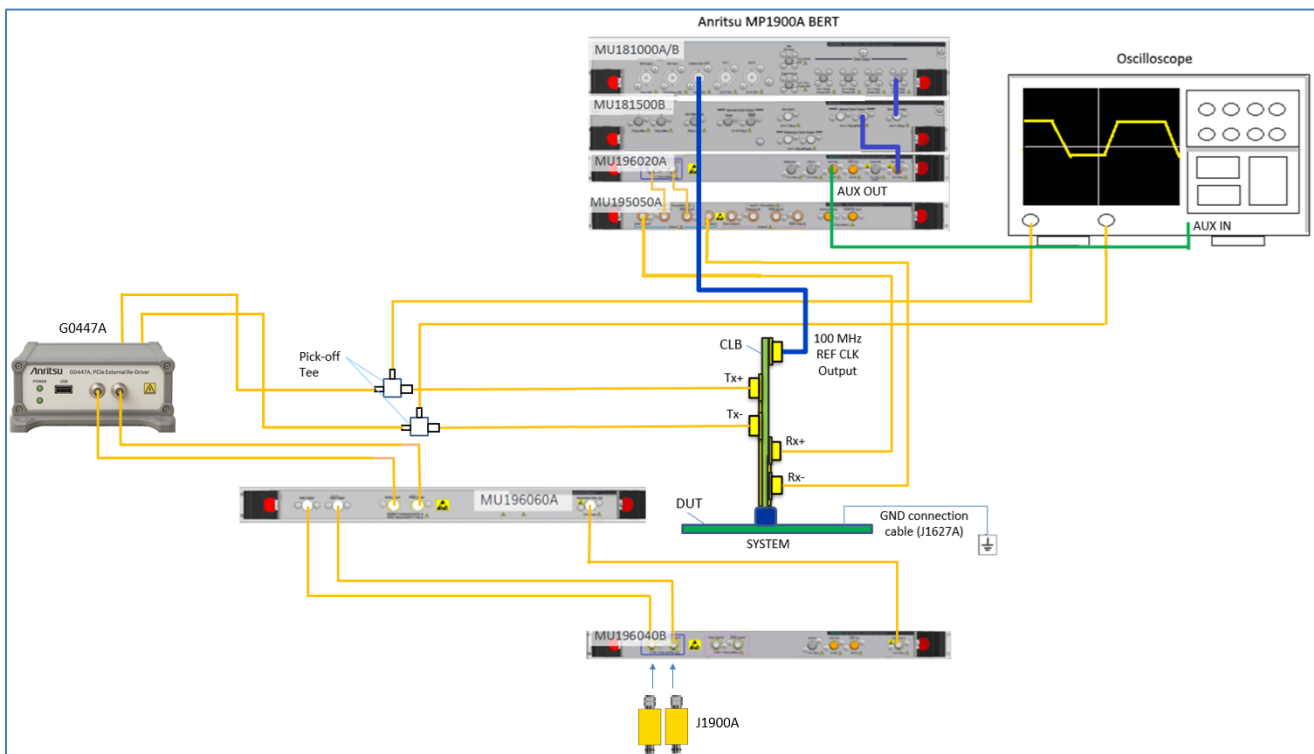

FIGURE 60. CONNECTION DIAGRAM FOR PCIe GEN 6 SYSTEM BOARD DUT TX LINK EQ RESPONSE TEST
1. Using the same setup from the system board link EQ test (Figure 60), remove all oscilloscope connections along with the pick-off tees.